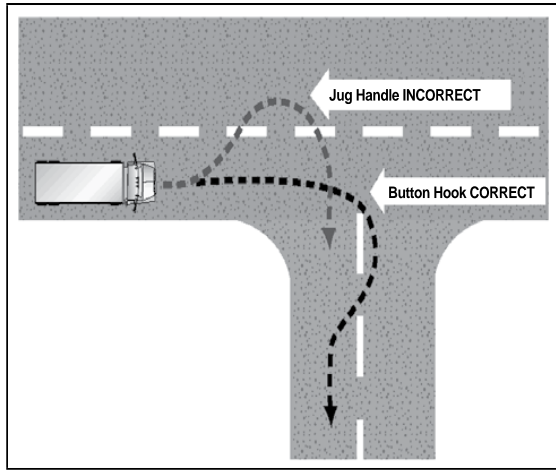

Figure 2.13
- If you must cross into the oncoming lane to make a turn, watch out for vehicles coming toward you. Give them room to go by or stop. However, do not back up for them because you might hit someone behind you. See Figure 2.13.